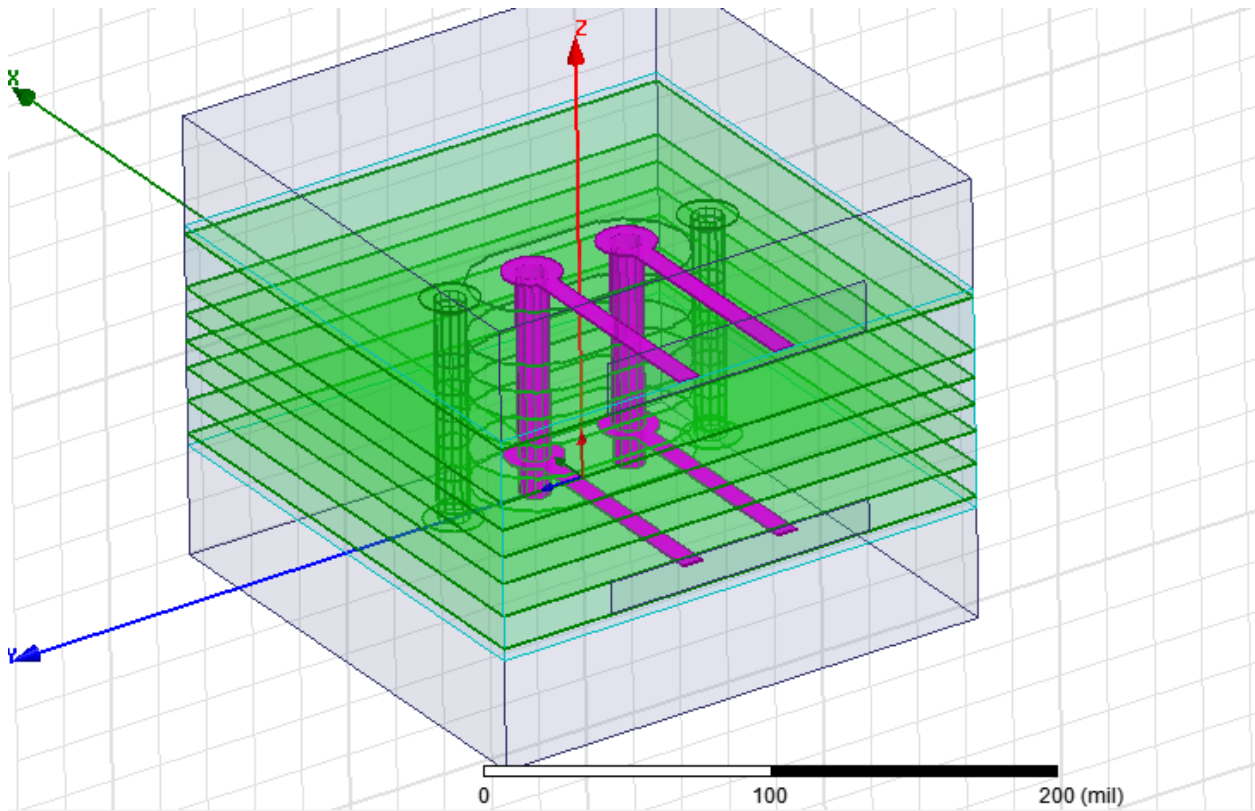

Figure 1. Geometry of a differential via pair
Q1. Design a differential via pair and investigate the signal transmissions and reflections with HFSS. The differential pair is shown in Figure 1.
1. You should have four signal traces in this design as shown in Figure 1.